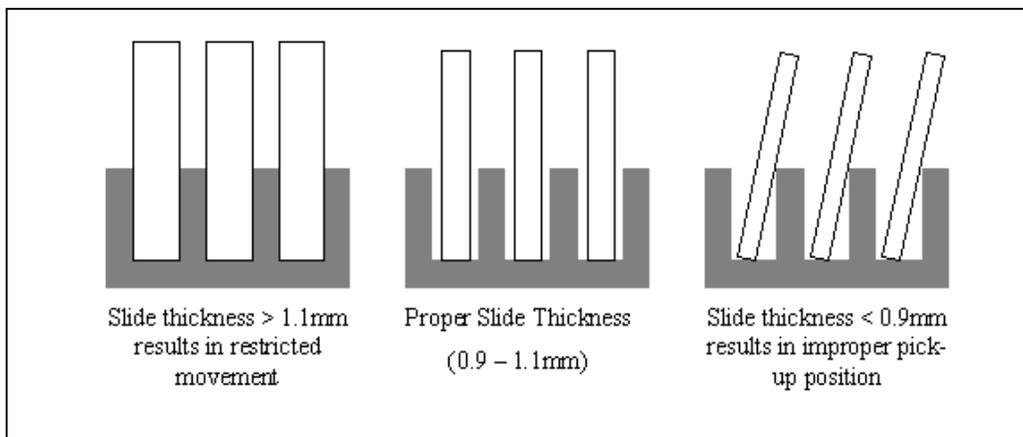

Figure 2. Side view of slide carrier with slides of varying thickness.
**NOTE: The slide carrier can accommodate slides that are between 0.9 mm and 1.1 mm thick, including any labels. Slides thicker than 1.1mm will get stuck in the slide carrier and will cause slide-handling failures, due to the excessive force required to extract the slide from the carrier. When in doubt, check to make sure that the slides move freely in the slide carrier when they are seated. Slides thinner than 0.9mm may not sit up straight in the slide carrier, resulting in an improper pick-up position (Figure 2).**